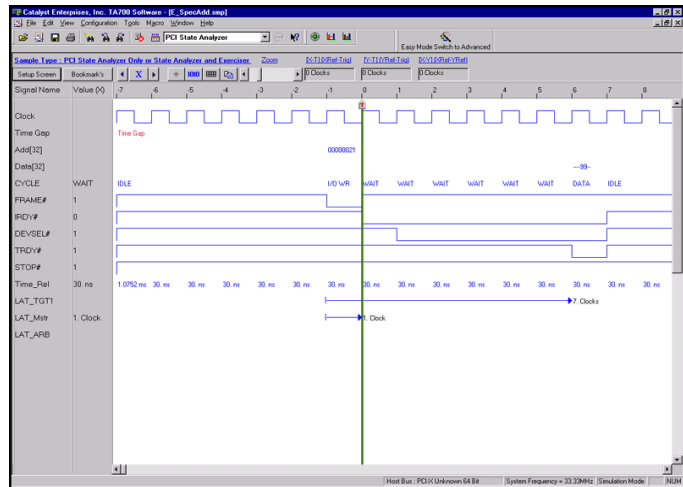
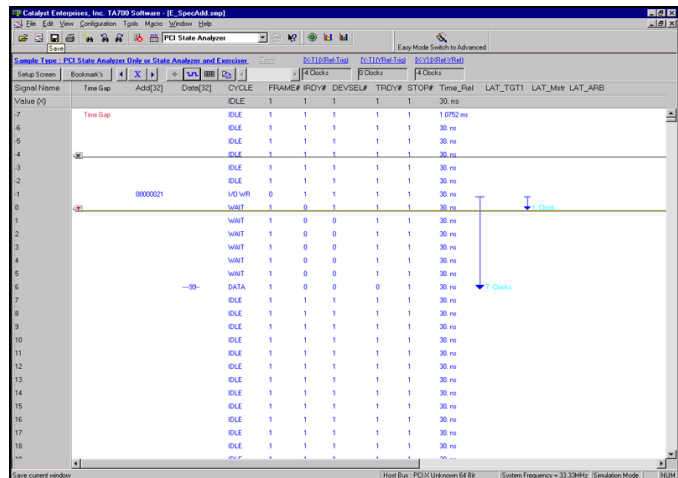

Figure 14 Wave File Output Display
Figure 15 List File Output Display
2. Select a Pre-Defined Trigger Point (See Table 1.) from the **Trigger On** dropdown list and click **Run**. Wait to capture data and to view result. Figure 14 and Figure 15 show a typical Wave and List result display.